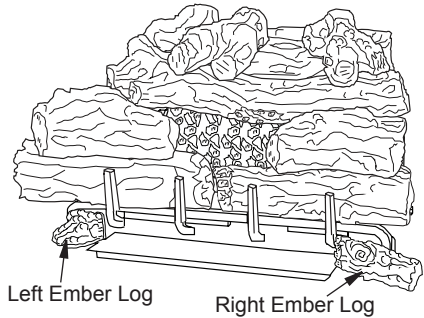

Figure 46 - Installing Ember Logs
- Place the left and right ember logs as shown in Figure 46. Do not place the logs where they will be touched by flame. They are intended to cover the sheet metal on the front left and right sides of the base assembly.